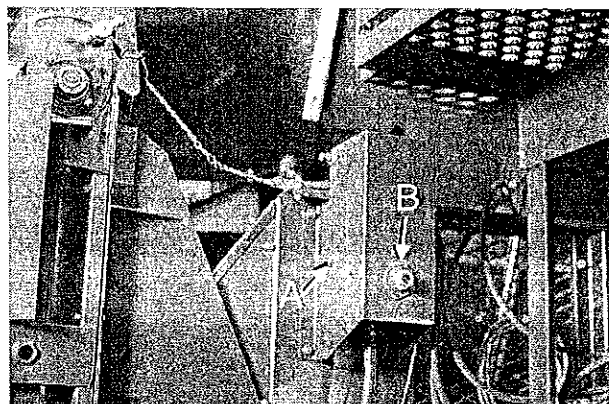

Figure 22. 1425/1500 Planetary Gearbox Reservoir.
**Planetary Gearbox** - The planetary gearbox has an oil reservoir that is mounted to the front conveyor shield or to the platform assembly. The oil reservoir should be filled to the oil fill plug (refer to Figures 22/23-A). The oil sight plug (Figures 22/23-B) should be used as a daily "quick" check to ensure that a minimum oil level is maintained. Whenever the oil level is visible at the sight plug, refill the oil level to the fill plug with SAE 90 weight gear oil.